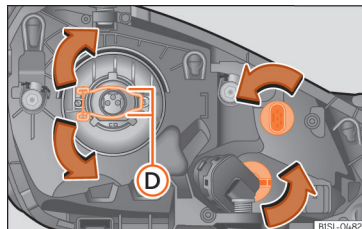

Fig. 86 Left headlight
2. Press the retaining clip **»»» Fig. 86 (D)** downwards in the direction of the arrow, unclip sideways, and remove it.
5. Insert the bulb, return it to its position and insert the retaining clip **»»» Fig. 86 (D)**